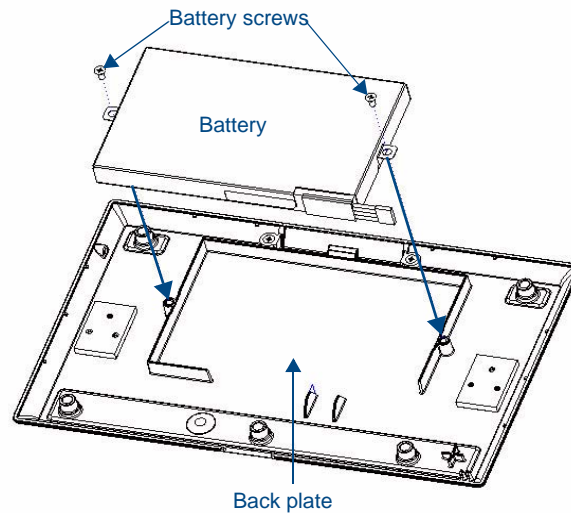

**FIG. 85** Interior of MVP-5100, including female battery connector
4. Carefully remove the back of the device and detach the battery lead at the battery connector (FIG. 85). This will allow the back cover to be detached from the device.
2. Make sure to seat fully the battery plug to the connector in the device (FIG. 85). If fingers cannot be used, use a clean, nonconductive stick or probe to seat the plug in the connector.